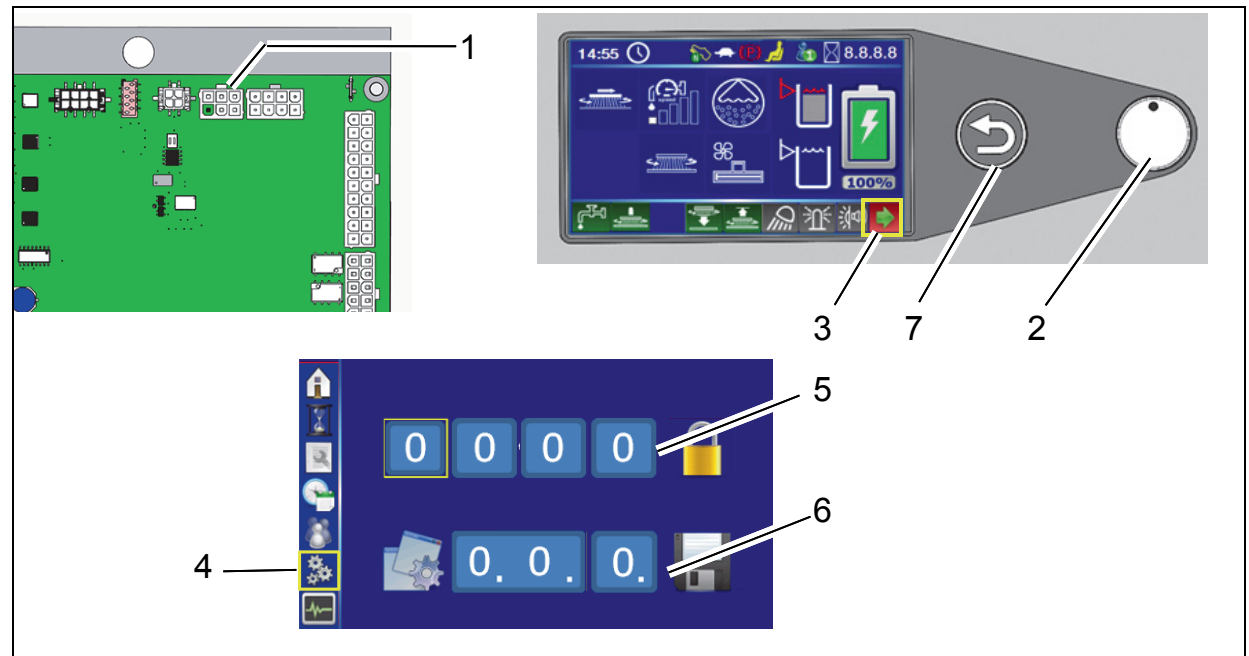

Fig. 3
Connect diagnosis plug to slot X20 of controller A1 (Fig. 3/1).
2. Select the arrow soft key (Fig. 3/3) on the control panel using the turn-push knob (DDS)(Fig. 3/2) and press to access the sub-menu.
3. Select the configuration menu in the sub-menu (Fig. 3/4).
4. Enter the 4-digit code in the configuration menu at the top (Fig. 3/5):
5. Select the value of the option under (Fig. 3/6) in the configuration menu and save by pressing the DDS. After confirming the last digit, *OK?* appears. Press DDS again to save the value. Saved value is displayed in green. If the value is not to be saved, exit menu using the return key (Fig. 3/7).